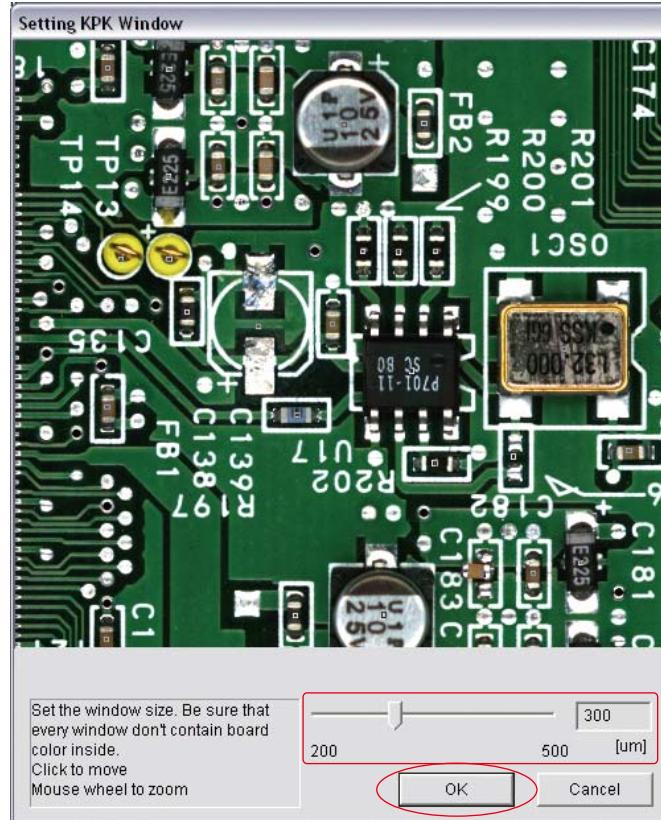

Figure 2-16 KPK Window Size Setting
Step3: Press **Set in on image** and the window shown in Figure 2-16 appears. Adjust the window size to extract component color by moving a slide-bar. After all the settings are completed, press **OK**.